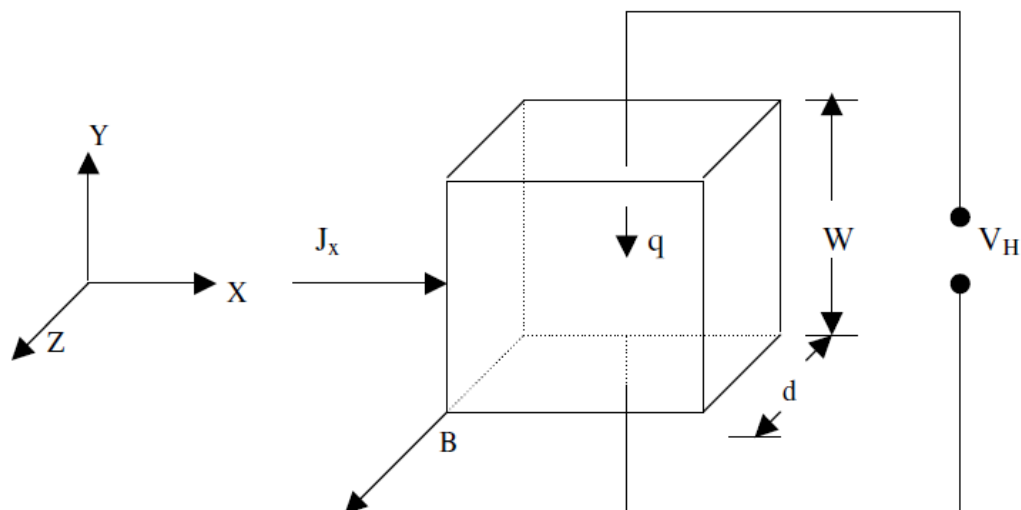

Fig. 1: Hall Effect
Theory: Consider a rectangular slab of semiconductor with thickness d kept in XY plane [see Fig. 1(a)]. An electric field is applied in x-direction so that a current (I) flows through the sample. If w is width of the sample and d is the thickness, the current density is given by $J_x = I/wd$. Now a magnetic field B is applied along positive z axis (Fig. 1). If the charge carriers are positive (negative) and are moving with velocity v along positive (negative) x-axis then the direction of force experienced by the charge carriers in presence of magnetic field is along negative y direction. This results in accumulation of charge carriers towards bottom edge (Fig. 1). This sets up a transverse electric field E_y in the sample. The potential, thus developed, along y-axis is known as Hall voltage V_H and this effect is called Hall Effect.